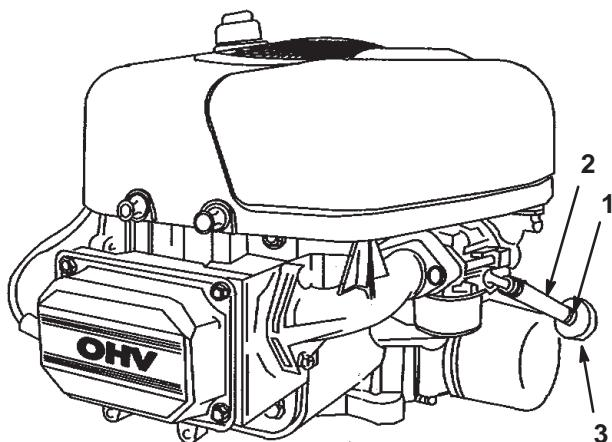

Figure 29
2. Open the hood and locate the fuel filter (Fig. 29).
3. Squeeze the ends of the hose clamp together and slide it up the fuel line toward the fuel tank (Fig. 29).
4. Pull the fuel line off of the filter (Fig. 29) and allow gasoline to drain into a gas can or drain pan.
The best time to replace the fuel filter (Fig. 29) is when the fuel tank is empty. Never install a dirty filter if it is removed from the fuel line.
3. Squeeze the ends of the hose clamps together and slide them away from the filter (Fig. 29).